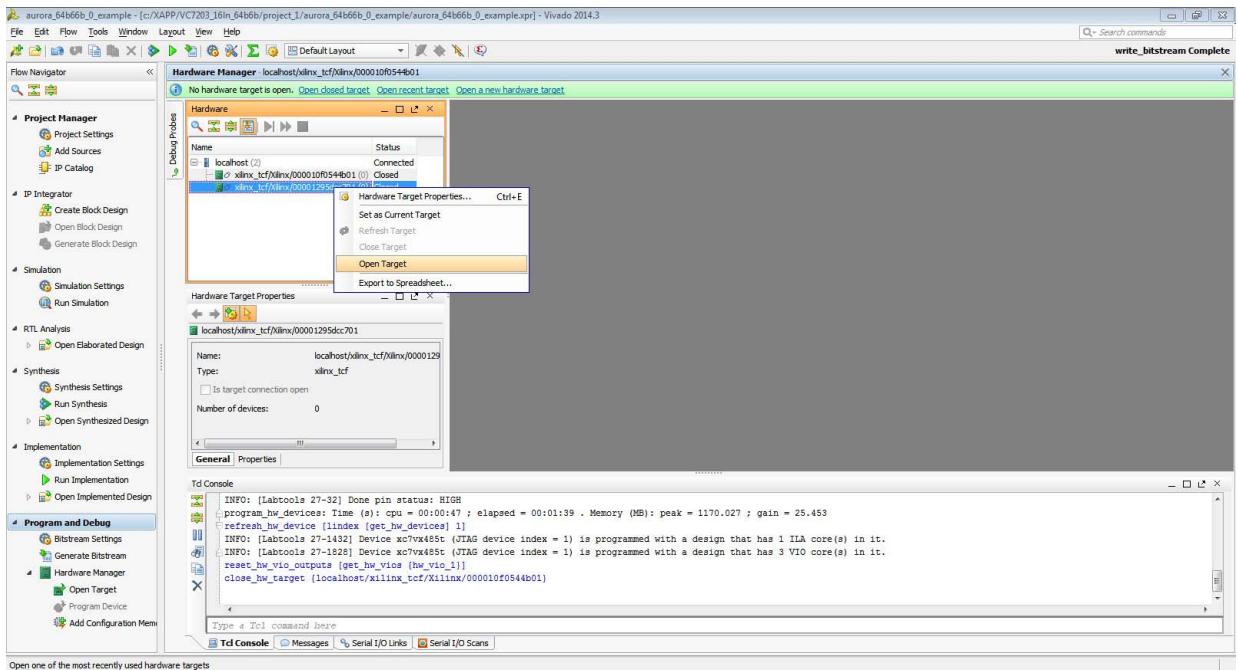
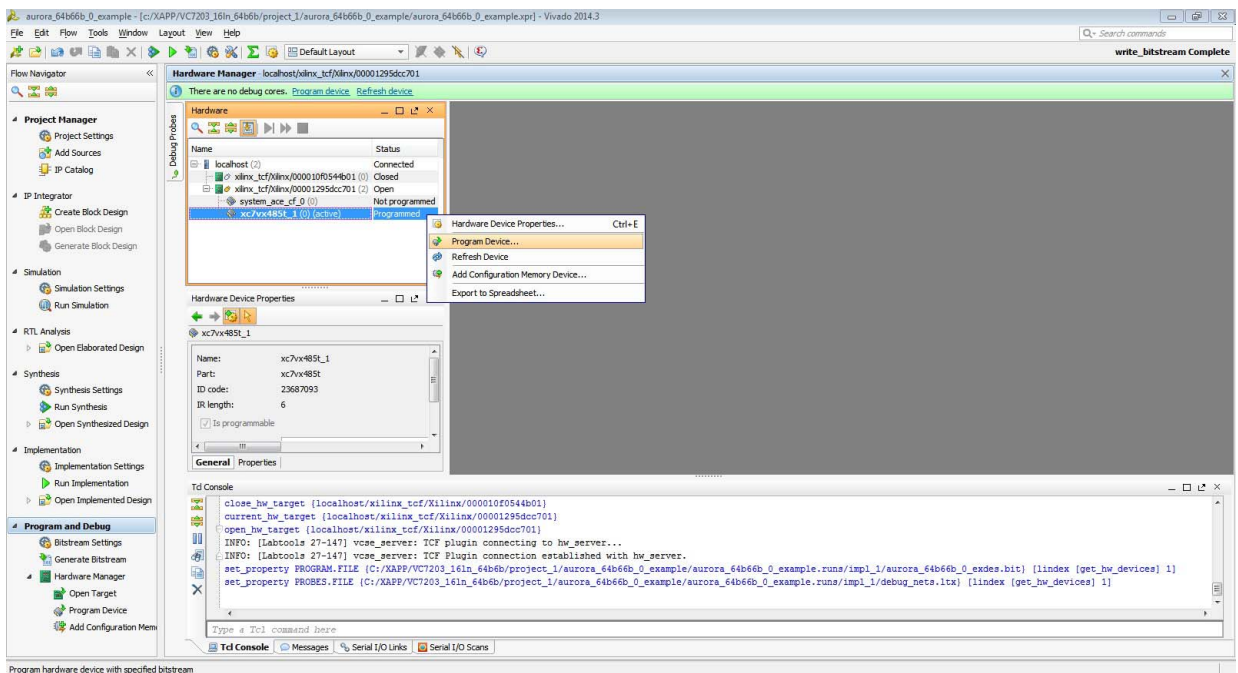

Figure 29: Open target on Board B
Figure 30: Programming the Aurora 64B/66B core on Board B
9. Close the hardware target and open the other target as shown in Figure 29 and Figure 30.